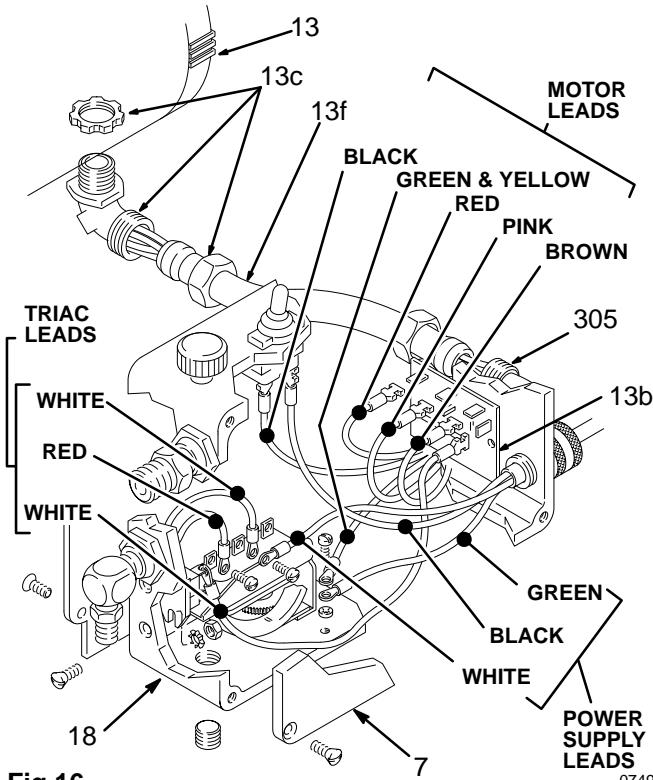

Fig 16
9. Connect any other loose wires. See Fig 16.